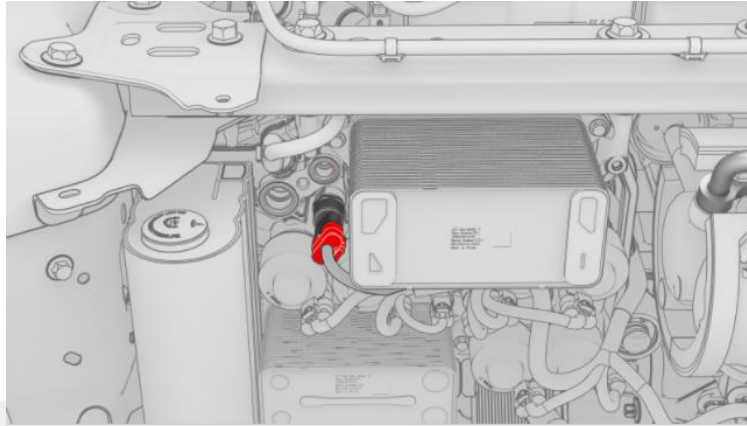

Figure 4
6. Release the locking tab, and then disconnect the electrical harness from the high pressure P/T sensor connector (Figure 4).
17. Connect the electrical harness to the high pressure P/T sensor connector, and then fasten the locking tab (Figure 4).